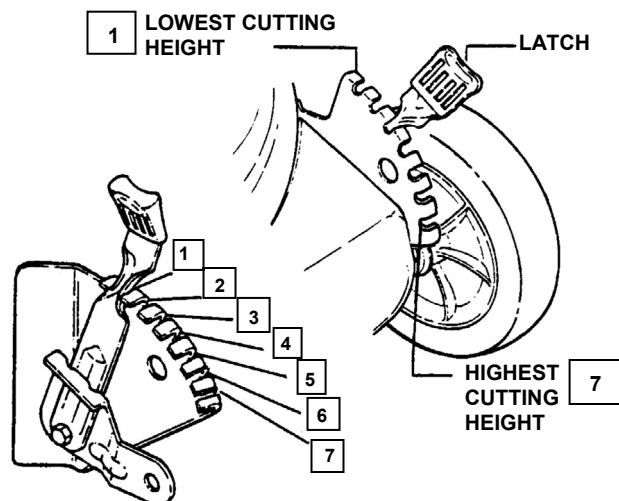

FIGURE 2.8
1. Pull the height adjusting latch outward and move to desired cutting height. See Figure 2.8.
2. Set all wheels at the same cutting height. The highest cutting position is Notch 7. The lowest cutting position is Notch 1. See Figures 2.8 & 2.9.